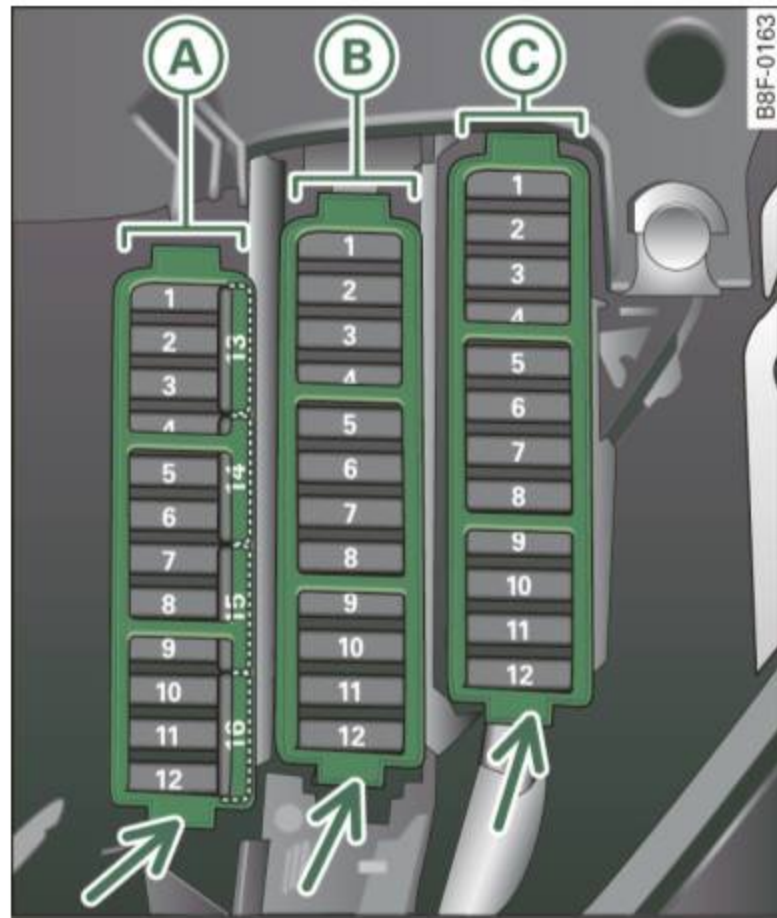

Fig. 229 Left cockpit: fuse panel with plastic clip
- To remove the purple plastic clip if necessary ⁴⁾, hold onto it at the small side and pull it out of the fuse panel ⇒ page 324, fig. 229.